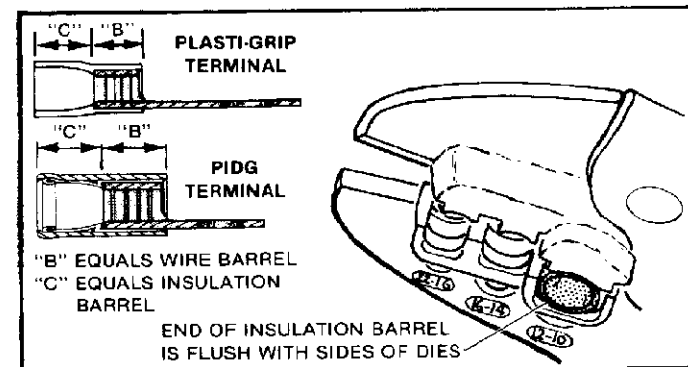

Figure 4
- Position terminal or splice in crimp closure as shown in Figure 4 or 5.